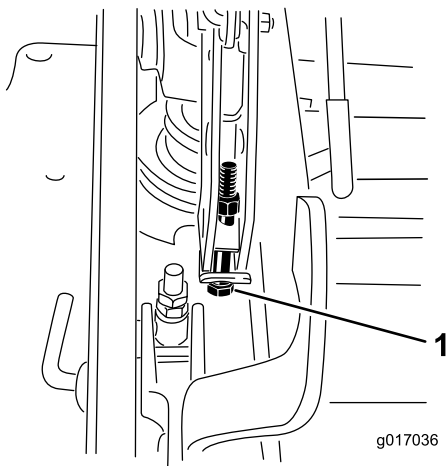

**Figure 94**
12. To adjust the single point system, loosen the two bolts at the bottom of the height of cut plate. Refer to Figure 94.
14. Tighten the two bolts at the bottom of the height of cut plate (Figure 94). Torque to 27-33 ft-lb (37-45 N-m).